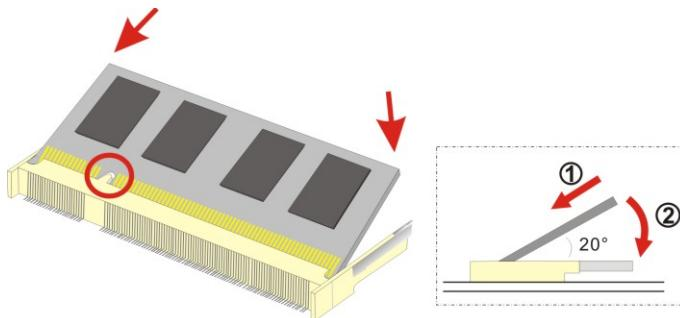

Figure 4-1: SO-DIMM Installation
To install an SO-DIMM, please follow the steps below and refer to Figure 4-1.
Step 3: Insert the SO-DIMM. Push the memory in at a 20° angle. (See **Figure 4-1**)
Step 4: Seat the SO-DIMM. Gently push downwards and the arms clip into place. (See **Figure 4-1**)